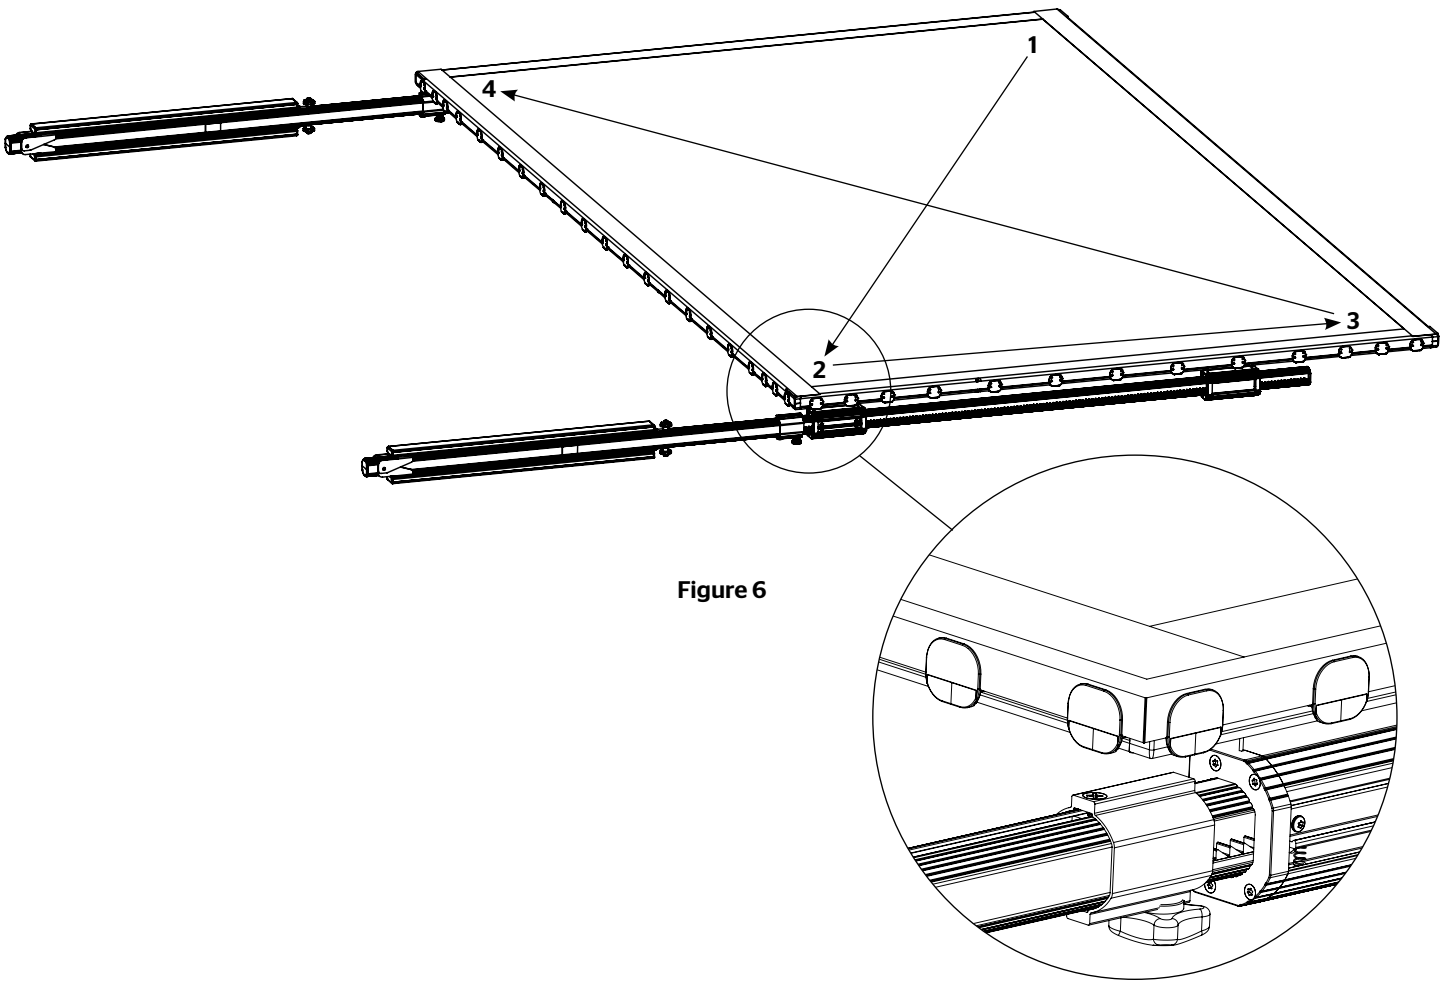

Figure 6
6. Attach clips on both sides of corner at all four corners. To maintain even surface tension, attach the corners in a diagonal pattern. See Figure 6.